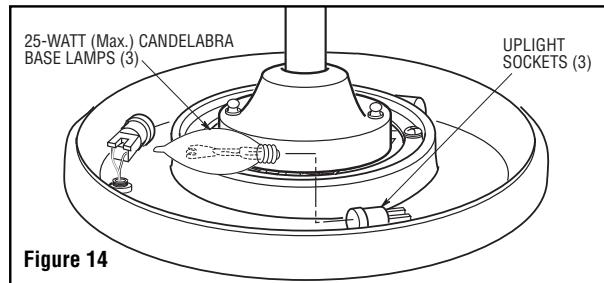

Figure 14
1. Screw three 25-watt (maximum) candelabra base lamps (supplied) into the uplight sockets on top of the fan housing assembly (Figure 14).